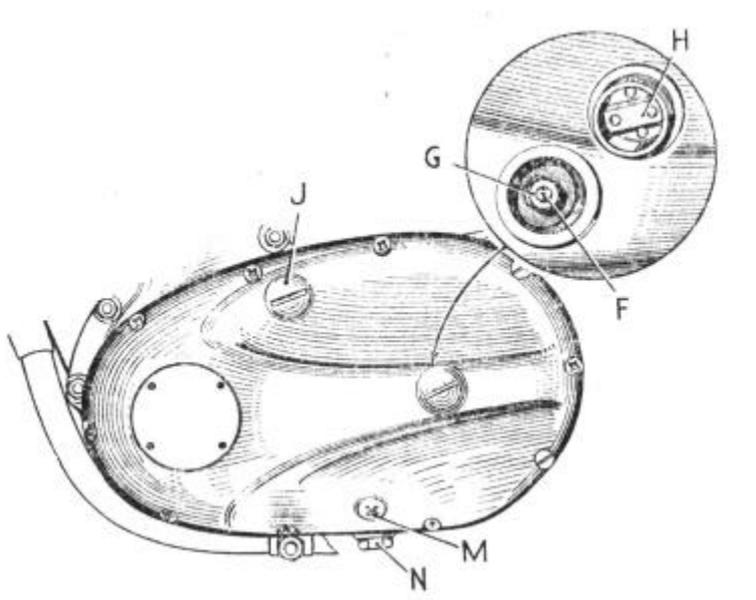
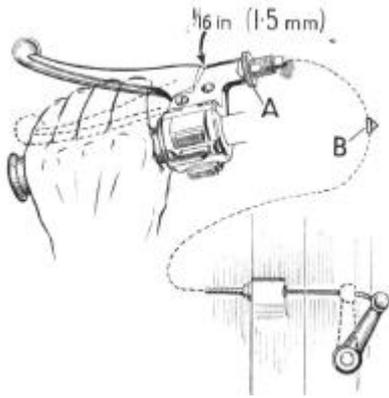

Figure 22. Clutch adjustment and chaincase oil level.
FIGURE 23.
An adjustable slipper-type tensioner is provided for the chain and its slackness can be tested after removal of the filler cap (J) Fig. 22. The chain is in correct adjustment when there is a minimum of 1/8" and a maximum of 1/4" of free play at the midway position between the sprockets.
On all models there is a small oil supply from the primary chaincase through the non-adjustable metered feed on to the rear chain, so that on the 250 cm³ engines, the oil level can be expected to fall very slowly. The screw (M) Fig. 22, determines the oil level. To replenish with oil, first remove this screw and then the filler cap (J) at the top of the chaincase. Add oil of the correct grade (see "Recommended Lubricants" page 28) and allow to stand until any surplus oil has drained away. Replace the level screw and inspection cap. The machine should be on horizontal ground when this operation is carried out. A drain plug is provided at (N) for draining the case at regular intervals (see page 27).
The main adjustment consists of a screw pin (F) and locknut (G) mounted on the clutch pressure plate. These are accessible after removal of the inspection cover (H) Fig.22
If adjustment is necessary, slacken off the handlebar cable adjust. (A) Fig. 23, and release the cable from the control lever above the timing cover on the right-hand side of the motor. Release locknut (G) Fig. 22, and adjust the pin (F) until the control lever is inclined outwards by a small amount. Add a short length of tubing to the lever to provide additional leverage and disengage the clutch, when the lever should take up a position approximately parallel with the timing cover joint face. If necessary the adjustment must be modified until this condition is obtained.
Finally reconnect the cable to the control lever and readjust the cable length at the handlebar lever until there is about 1/16" of free play (see Fig. 23).